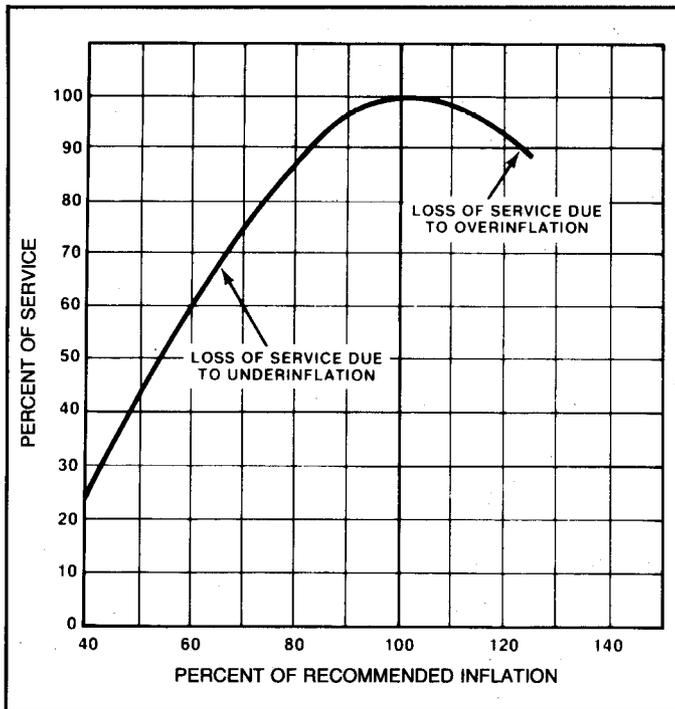

Figure 3-22 — Effect of Inflation on Tire Wear
**Overinflation** — This is one of the greatest causes of tire damage. Overinflation does not add strength to a tire, nor does it compensate for overloading. Instead, it weakens the tire and causes more rapid wear (Figure 3-22). Specifically, overinflation causes (1) rapid wear in center of tread, (2) greater susceptibility to impact breaks, (3) weakening of bead, (4) stresses that lead to tread separation, (5) reduced cushioning, leading to increased truck maintenance costs, and (6) reduced traction and skid resistance.
**Underinflation** — This causes tires to flex excessively, causing heat build-up and increased tire wear (Figure 3-22). Underinflation leads to (1) excessive wear on shoulder of tread, (2) irregular tread wear, (3) ply separation, (4) greater susceptibility to bruising, and (5) tread separation.